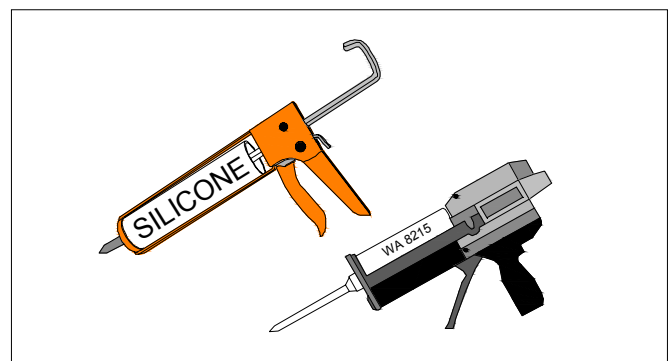

Figure 3B
- 100% Clear Silicone (FIG. 3B)
- Seam Kit dispensing gun (FIG. 3B)